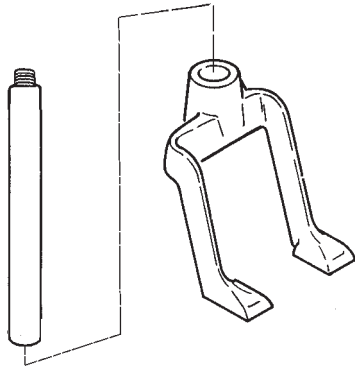

Figure 2
1. Insert Rod (8) in foot (7) with threaded end up, as shown in Figure 2.